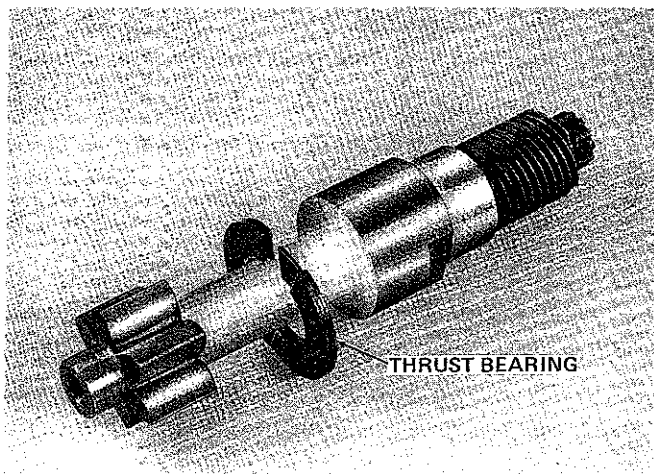

Figure 6-5. Pinion Shaft and Two-Piece Thrust Bearing
c. Load gearing can now be removed. First lift out chain sprocket with integral gear. Then remove pinion shaft and pinion thrust bearing. The bearing will come out with the shaft and is of special two-piece design for removal from shaft. See Figure 6-5. Separate bearing halves and remove from shaft.